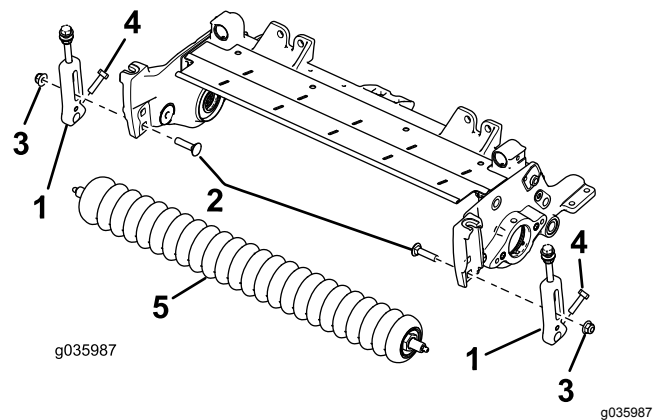

Figure 4
6. Remove the carriage bolts and locknuts securing the height-of-cut (HOC) brackets to the cutting-unit side plates (Figure 4).
7. Loosen the screws securing the height-of-cut brackets to the front-roller shaft (Figure 4).
8. Remove the existing height-of-cut brackets and the front roller from the cutting-unit side plates (Figure 4).